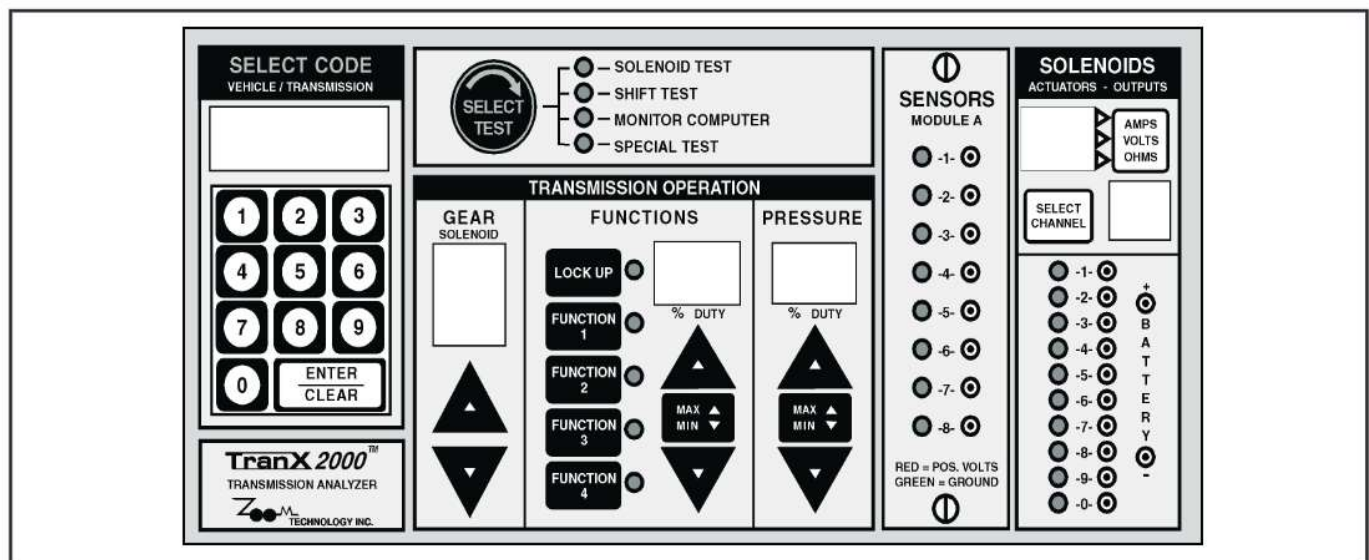

Figure 120
- There will be times when the diagnostic process calls for manual control of a solenoid. If the scan tool is incapable of bi-directional control then a transmission tester would do the job, preferably one that will display what the PCM is telling the solenoid to do as well as operating it independently of the computer as seen in Figure 120 below.